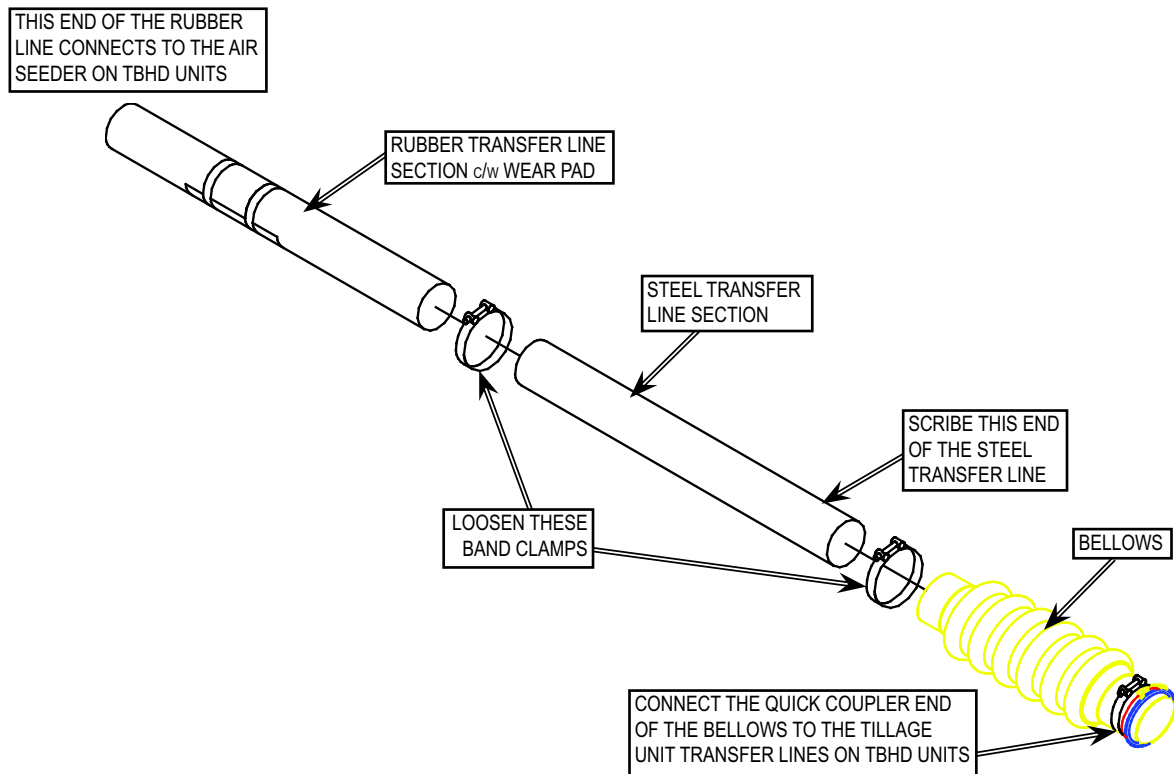

Figure 11.36a - TBHD Transfer Line with Bellows
- Refer to *Figure 11.36a&b*. Unhook the quick coupler handles.